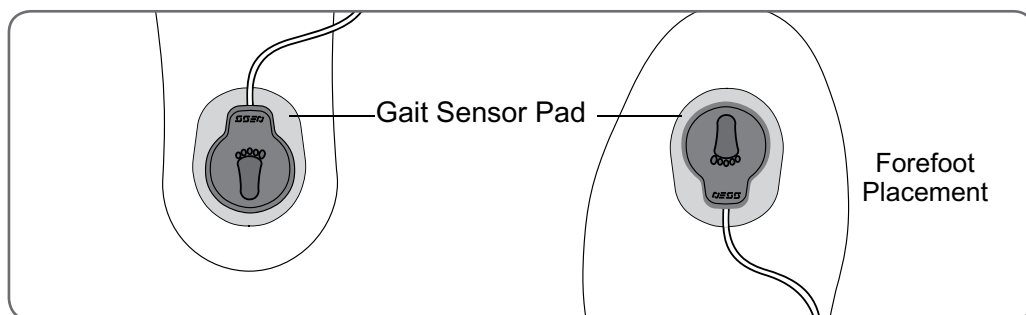

Figure 6-6: Positioning the Gait Sensor in the shoe.
3. For heel position placement point the wire of the Intelli-Sense Gait Sensor toward the toe of the shoe. For forefoot position placement point the wire of the Intelli-Sense Gait Sensor toward the heel of the shoe. Then, attach the pressure sensor to the Gait Sensor pad. See Figure 6-6. Refer to the foot image on the pressure sensor for positioning.